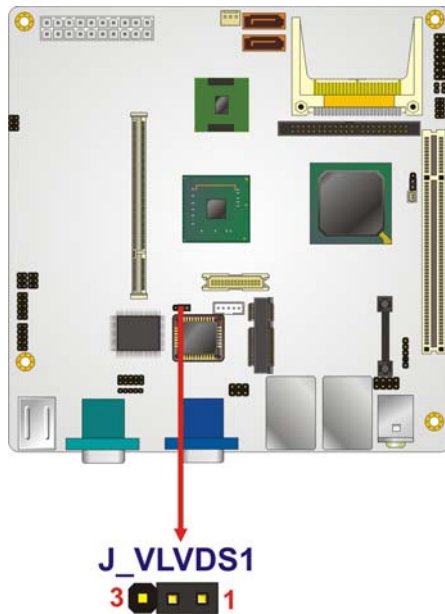

Figure 5-8: LVDS Voltage Selection Jumper Pinout Locations
Jumper Location:	See Figure 5-8
The **LCD Panel Type Selection** jumper location is shown in **Figure 5-8**.
- Jumper Location:** See **Figure 5-8**
The LVDS Voltage Selection jumper location. is shown in **Figure 5-8**.